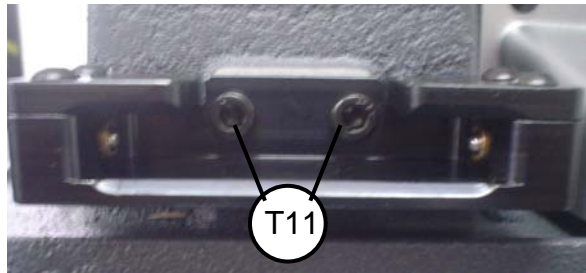

Fig.30
- Position the key box holder and fasten in place using the screws supplied (T11) (Fig.30).